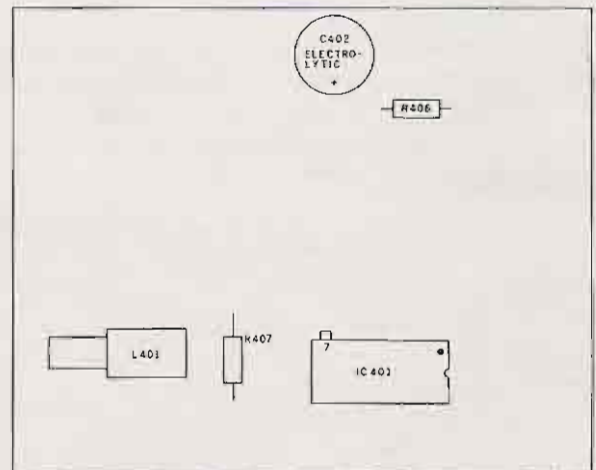

Fig. 1. The vco board, showing parts locations.
- Locate R407 (56k) from Fig. 1. Solder a 120k resistor across it.
- Locate coil L401 (yellow) as shown in Fig. 1. Carefully screw slug outward until it is flush with coil form. Advance squelch knob fully